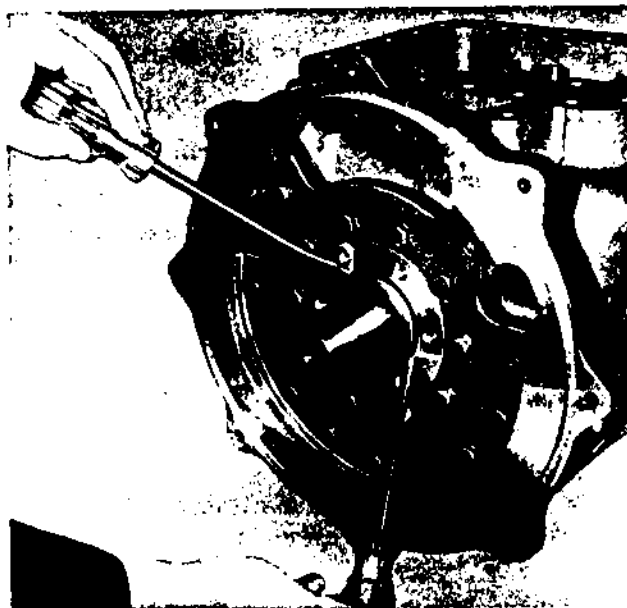

Figure 3-12. Shaft Seal Removal
- b. Tap seal end of crankshaft to loosen seal grip on shaft. Using two long screwdrivers, pry out the shaft seal. (See figure 3-12.)